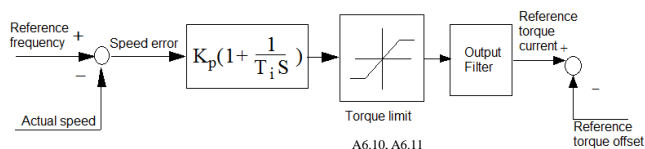

Fig.6-13 Speed regulator
1. The structure of speed regulator (ASR) is shown in Fig.6-13. In the figure,  $K_p$  is proportional gain P.  $T_i$  is integral time I.